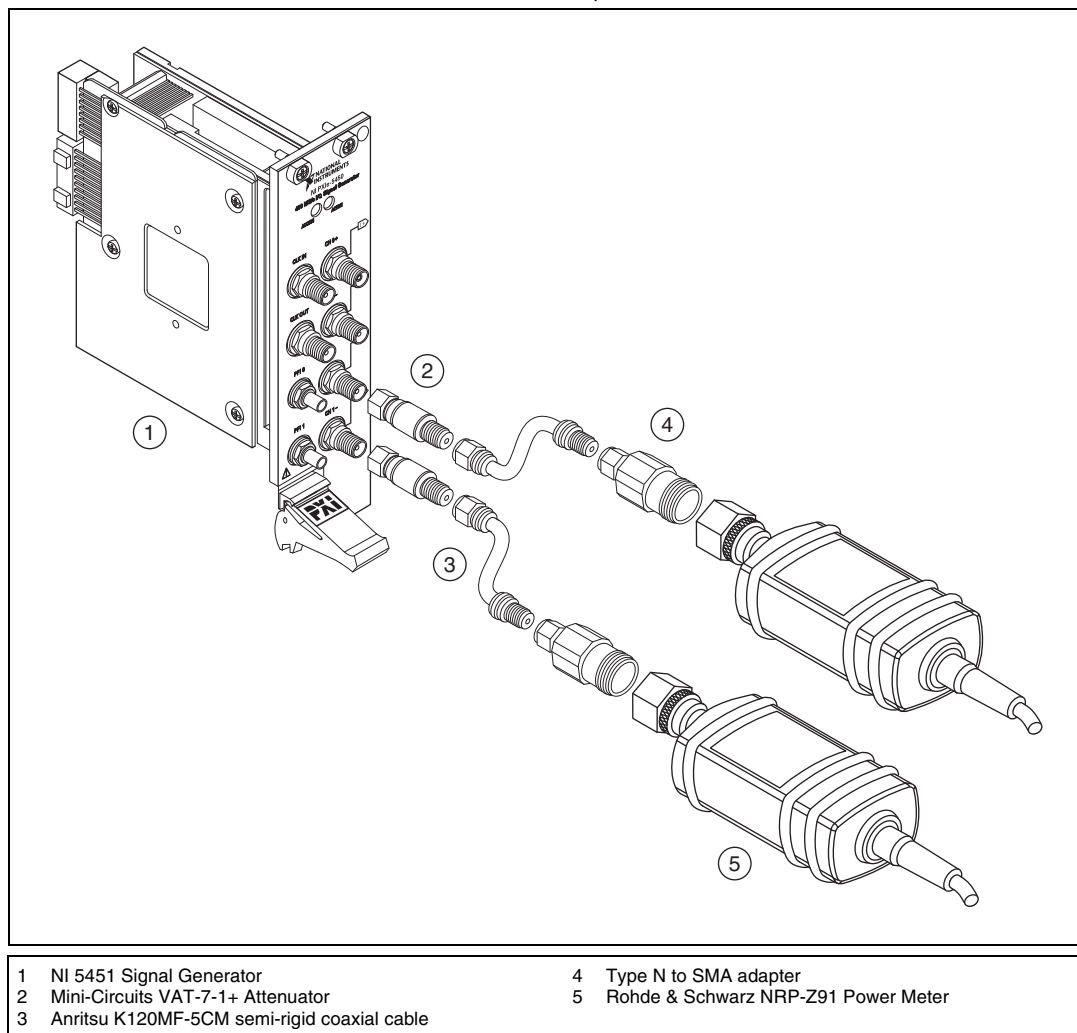

Figure 10. NI 5451 Connection to Power Meters Using Attenuators (CH 1)
15. Connect the devices as shown in Figure 10, using semi-rigid coaxial cables to connect the power meters simultaneously if necessary.